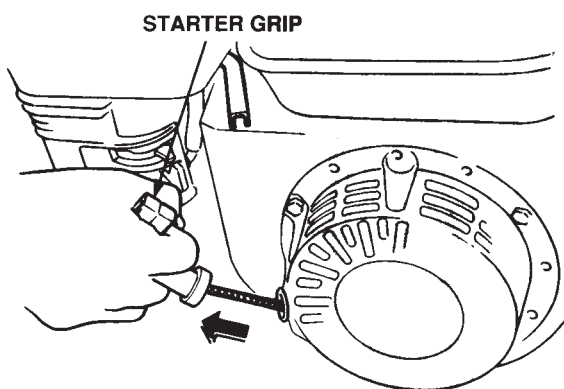

Figure 16. Starter Grip
6. Grasp the starter grip (Figure 16) and slowly pull it out. The resistance becomes the hardest at a certain position, corresponding to the compression point. Pull the starter grip briskly and smoothly for starting.